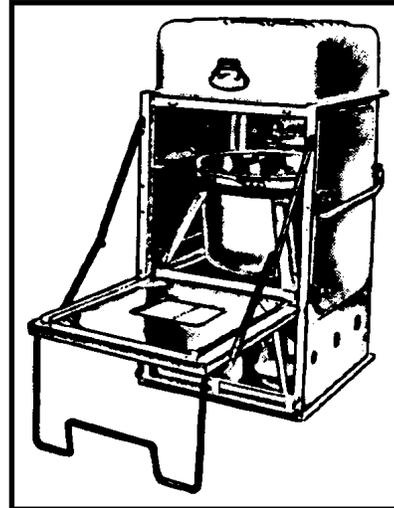

Figure 2-6. M59 Field Range set up for boiling.
- c. Position the M2 burner unit and pots for boiling. (See Figure 2-6.)
- (1) Place the M2 burner unit in the bottom position.
- (2) Place the cooking pot in the cooking pot cradle.
- (3) Cover the cooking pot with the lid.
- (4) Close the door and lid of the range cabinet.